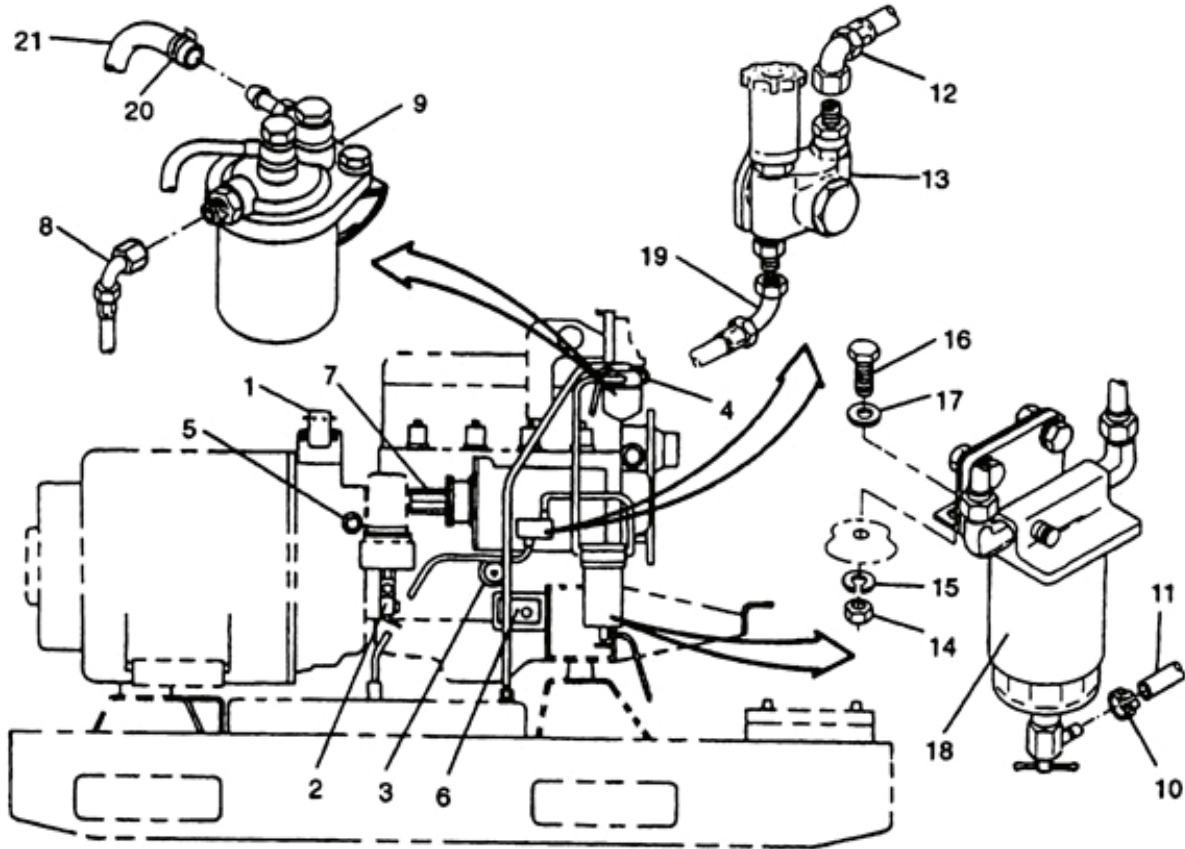
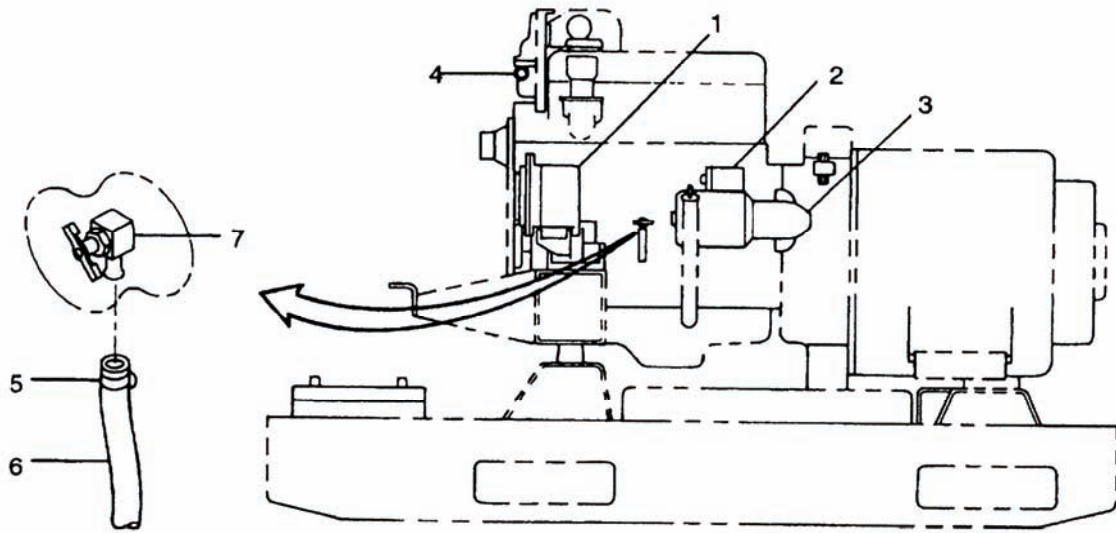
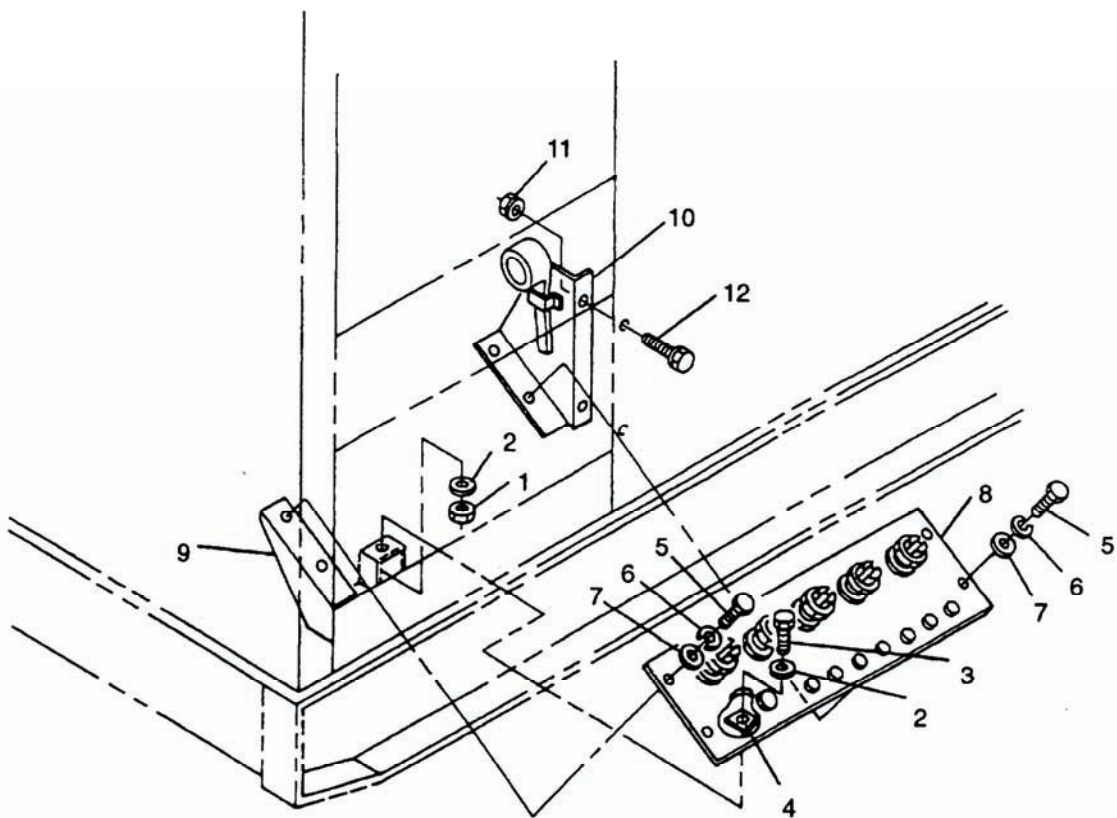

Figure 3-15. Right Side Engine Components – MEP-804A/MEP-814A.
Figure 3-16. Left Side Engine Components – MEP-804A/MEP-814A.
Figure 3-17. Load Output Terminal Board.
- ak. On right side of engine, tag and disconnect electrical leads from glow plug contactor (1, Figure 3-15), low oil pressure switch (2), oil pressure sender (3), coolant temperature sender (4), magnetic pickup (5), DEAD CRANK switch (6), and fuel injection pump governor actuator (7).
- al. Disconnect fuel line (8) from engine fuel filter (9). Cap openings.
- am. Remove clamp (10) and disconnect hose (11) from fuel filter/water separator assembly (18). Cap openings.
- an. Disconnect fuel line (12) from fuel transfer pump (13). Cap openings.
- ao. Remove nuts (14), lock washers (15), bolts (16), washers (17), and fuel filter/water separator assembly (18) from engine. Discard lock washers (15).
- ap. Disconnect fuel line (19) from fuel transfer pump (13). Cap openings.
- aq. Loosen clamp (20) and remove fuel return line (21) from engine fuel filter (9). Cap openings.
- ar. On left side of engine, tag and disconnect electrical leads from battery charging alternator (1, Figure 3-16), starter solenoid (2), starter motor (3), and coolant high temperature switch (4). Move engine electrical harness to rear of generator set and clear of engine.
- as. Loosen clamp (5) and disconnect coolant drain hose (6) from engine block coolant drain valve (7).
- at. Remove nut (1, Figure 3-17), lock washers (2), and bolt (3) securing ground strap (4) to skid base. Discard lock washers (2).
- h. Install bolts (42) and new lock washers (43), tightening bolts (42) slowly to ensure even and proper seating of generator housing lip to flywheel housing. Torque bolts to 31 ft-lbs (42 Nm).
- i. Secure engine support bracket (5) to skid base with bolts (4), snubbing washers (3), washers (2), and nuts (1). Torque bolts to 75 ft-lbs (102 Nm).
- j. Align scribe mark on generator drive disc and engine flywheel, and install bolts (40) and new lock washers (41) securing generator drive disc to engine flywheel. Torque bolts to 35 ft-lbs (47 Nm).
- k. Install screen/cover (39) on generator case with screw (38) and washer (37).
- l. Loosen nuts (23 and 27). Adjust bolts (25) to obtain 0.5 inch (12.7 mm) minimum clearance with skid base. Torque nuts to 150 ft-lbs (204 Nm).
- m. Install support (10, Figure 3-17) on right side panel with bolts (12) and assembled nuts (11).
- n. Install load output terminal board assembly (8) on supports (9 and 10) with bolts (5), new lock washers (6), and washers (7).
- o. Secure ground strap (4) to skid base with bolt (3), new lock washers (2), and nut (1).
- p. Position engine electrical harness and connect electrical leads to battery charging alternator (1, Figure 3-16), starter solenoid (2), starter motor (3), and coolant high temperature switch (4) on left side of engine. Remove tags.
- q. Connect coolant drain hose (6) at engine block drain valve (7) and tighten clamp (5).
- r. Remove caps and connect fuel line (19, Figure 3-15) to fuel transfer pump (13).
- s. Remove caps, connect fuel return line (21), and tighten clamp (20) at engine fuel filter (9).
- t. Install fuel filter/water separator assembly (18) on engine with bolts (16), washers (17), new lock